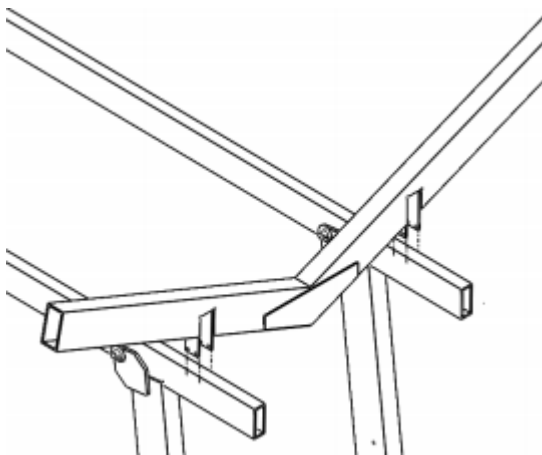

Figure 18
2. Attach one (1) 3/8" Flat Washer to two (2) 3/8" Hex Bolts and insert the Hex Bolts into the corresponding holes on the V-Bunk as shown in Figure 18.
3. Attach one (1) Lock Washer and one (1) Hex Nut to the protruding ends of the Hex Bolts and hand tighten.